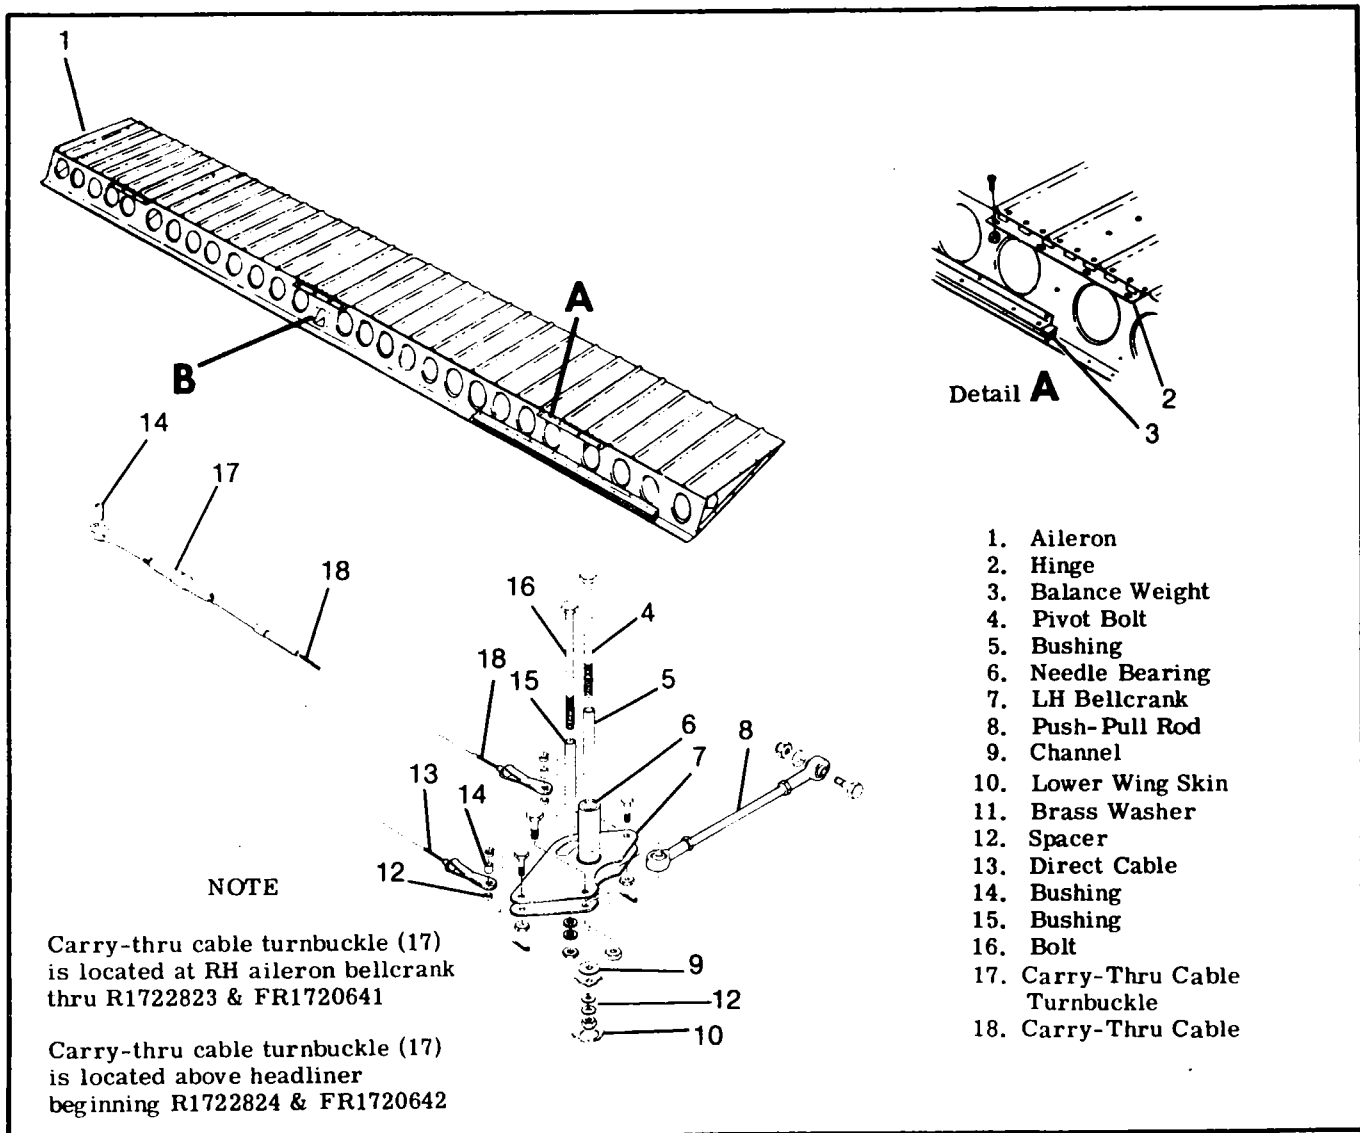

Figure 6-3. Aileron Installation
6-8. **AILERON BELLCRANK.** (See figure 6-3.)
6-14. **AILERONS.** (See figure 6-3.)
a. Check primary control cable (7) is in aft groove of cable drum (8) and wrapped once around drum. The primary cable lock (9) is installed at bottom of drum and transition cable lock (14) is installed at top.
b. With control wheels neutral, check chain ends (4) are approximately same distance from sprockets (1).
c. Keeping control wheels neutral, tighten turnbuckles (6) so control wheels are level in neutral position (synchronized), with enough tension on cables to remove slack from chains (4), without binding. Results of adjusting turnbuckles are as follows:
1. Loosening primary cable turnbuckles (6) and tightening secondary cable turnbuckle (15) at center of control "U" will move inboard sides of both control wheels down.
e. Adjust direct cable turnbuckles (17) below control "U" and single carry-thru turnbuckle (index 17, figure 6-3) at aileron bellcrank (index 7, figure 6-3)
so bellcrank stop bushings (index 15, figure 6-3) are centered in both bellcrank slots with 40 ± 10 pounds tension on aileron carry-thru cable (index 18, figure 6-3). Disregard tension on direct cables, which will be different than tension on carry-thru cable.
f. Adjust push-pull rods (index 8, figure 6-3) at each aileron until ailerons are neutral with reference to trailing edge of wing flaps. Be sure wing flaps are fully up when making this adjustment.